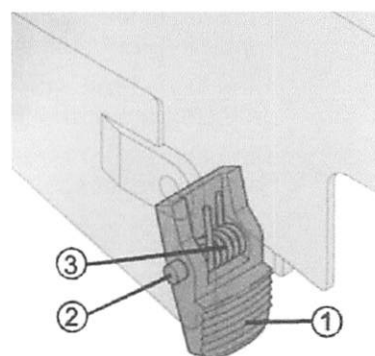

Fig. 41 Assembly position of the compression spring
- ⇒ When installing the magazine catch, (Fig. 41/1) pay attention to the assembly position of the compression spring (Fig. 41/3).